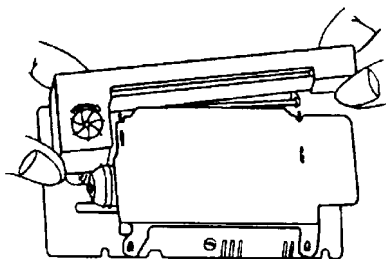

Figure 3. Removing Cassette Ribbon.
2. Remove the used ribbon cassette from the printer as shown in Figure 3.